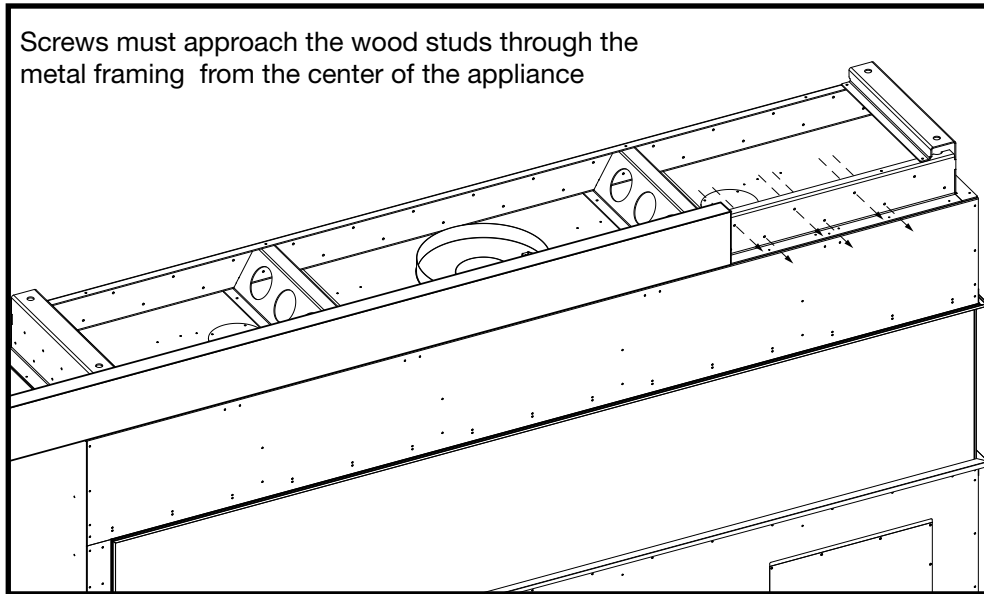

Figure 5: Stud securing points for bottom intake models.
1. When securing the top of the unit to the wooden studs, the screws must come through the metal framing from the center of the unit (Figure 5).